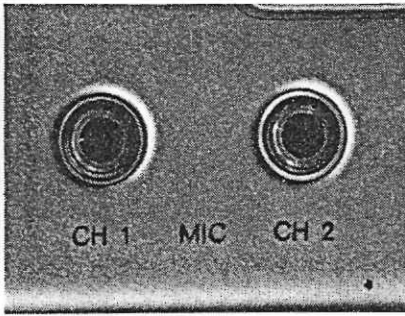

Fig. 5. The microphone inputs.
- The microphone jacks are located below the front trim cover on top of the recorder, ref. fig. 5.